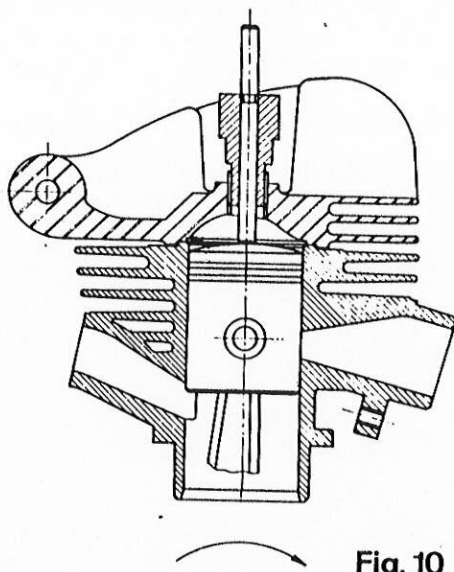

Fig. 10
- turn flywheel anti-clockwise until the upper part of the groove in the gauge pin falls level with the top surface of the dummy plug (this places the piston 2,75 mm before T.D.C.) (fig.10)